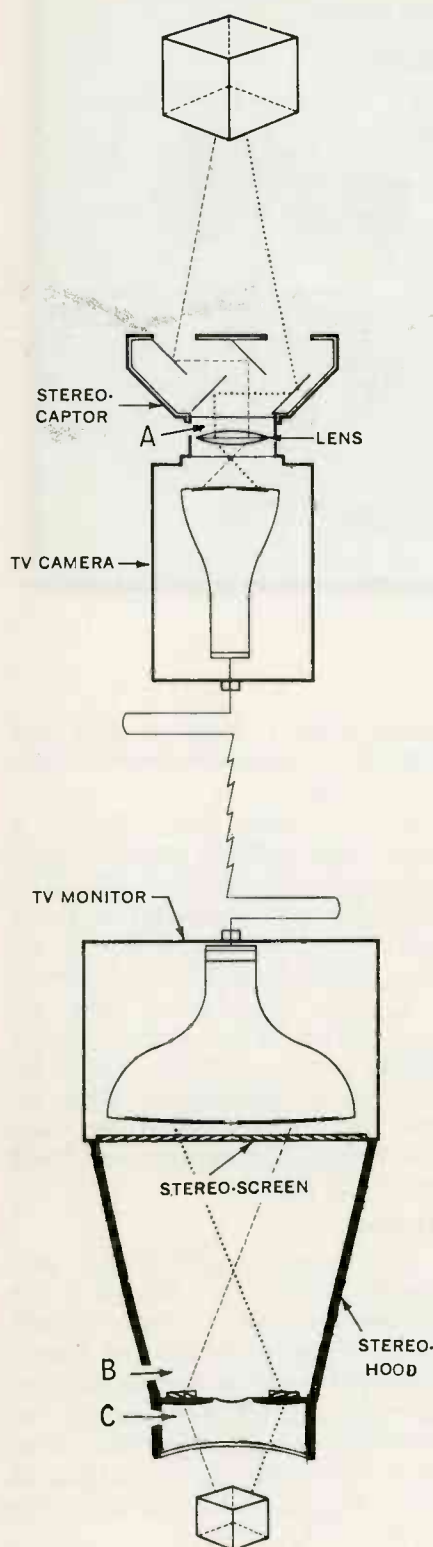

Figure 3
The technical operation of the Stereotronics System is shown in Figure 3. Two views of the subject are picked up by the Stereo-Captor from slightly different angles and optically relayed by mirror flats through the lens to be focused side-by-side on the face of the pick-up tube. The picture is transmitted electronically in the normal manner.
1. Bisected Color Filter. This is a ring holding a red-orange filter and a blue-green filter. It is positioned at "A" in the Stereo-Captor shown in Figure 3.
3. Color Filter Slide. This is a metal slide holder in which are positioned a red-orange filter and a blue-green filter. It is inserted in a slot just behind the Stereo-Hood's optics, placing it at "B" in Figure 3.
4. Color Compensator. This device consists of two neutral density filters, one for each eye. These filters can be adjusted by knobs on the Color Compensator. It snaps into the eye port of the Stereo-Hood at "C" in Figure 3.